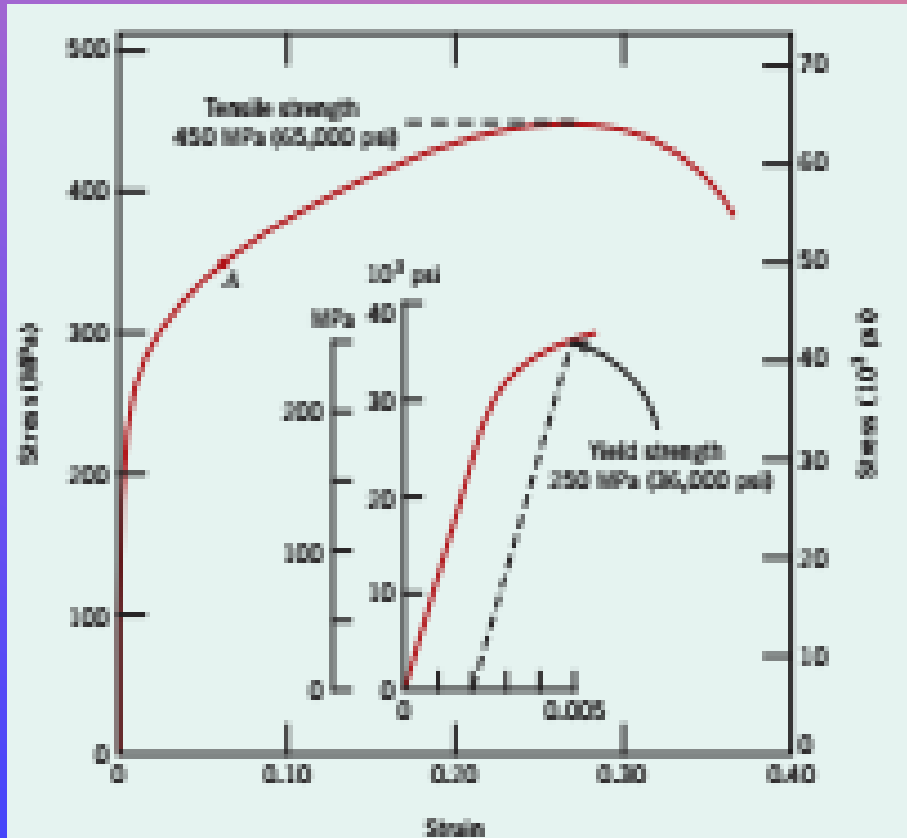

Figure 6.12 The stress–strain behavior for the brass specimen discussed in Example Problem 6.3.
- (a) The naval brass for which the stress–strain behavior is shown in Figure 6.12.